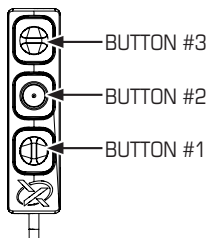

Figure 2.5-1 *ERGOCTO* Control Activation Keypad
1. **BOSS Xe** The **BOSS Xe** features a fully integrated Optic Sight, VIS Red or Green Aiming Laser, NIR Aiming Laser, NIR Laser Illuminator, and Fixed NIR LED Room Illuminator. It allows the user to interchangeably utilize supersonic and subsonic ammunition by the flip of a single trajectory switch. The Reflex Sight, Lasers, and Illuminator are coaligned on one Optical Bench. One (1) commercial CR123A lithium battery (sold separately) powers the **BOSS Xe** (**Surefire™** brand recommended).
5. **ERGOCTO Control Activation Keypad, 6.75", Single Cable** A three-button **ERGOCTO** Control Activation Keypad provides control of the Low Power IR Aiming Laser and IR Room Illuminator (see Figure 2.5-1). See Table 2.5-1 for operation.